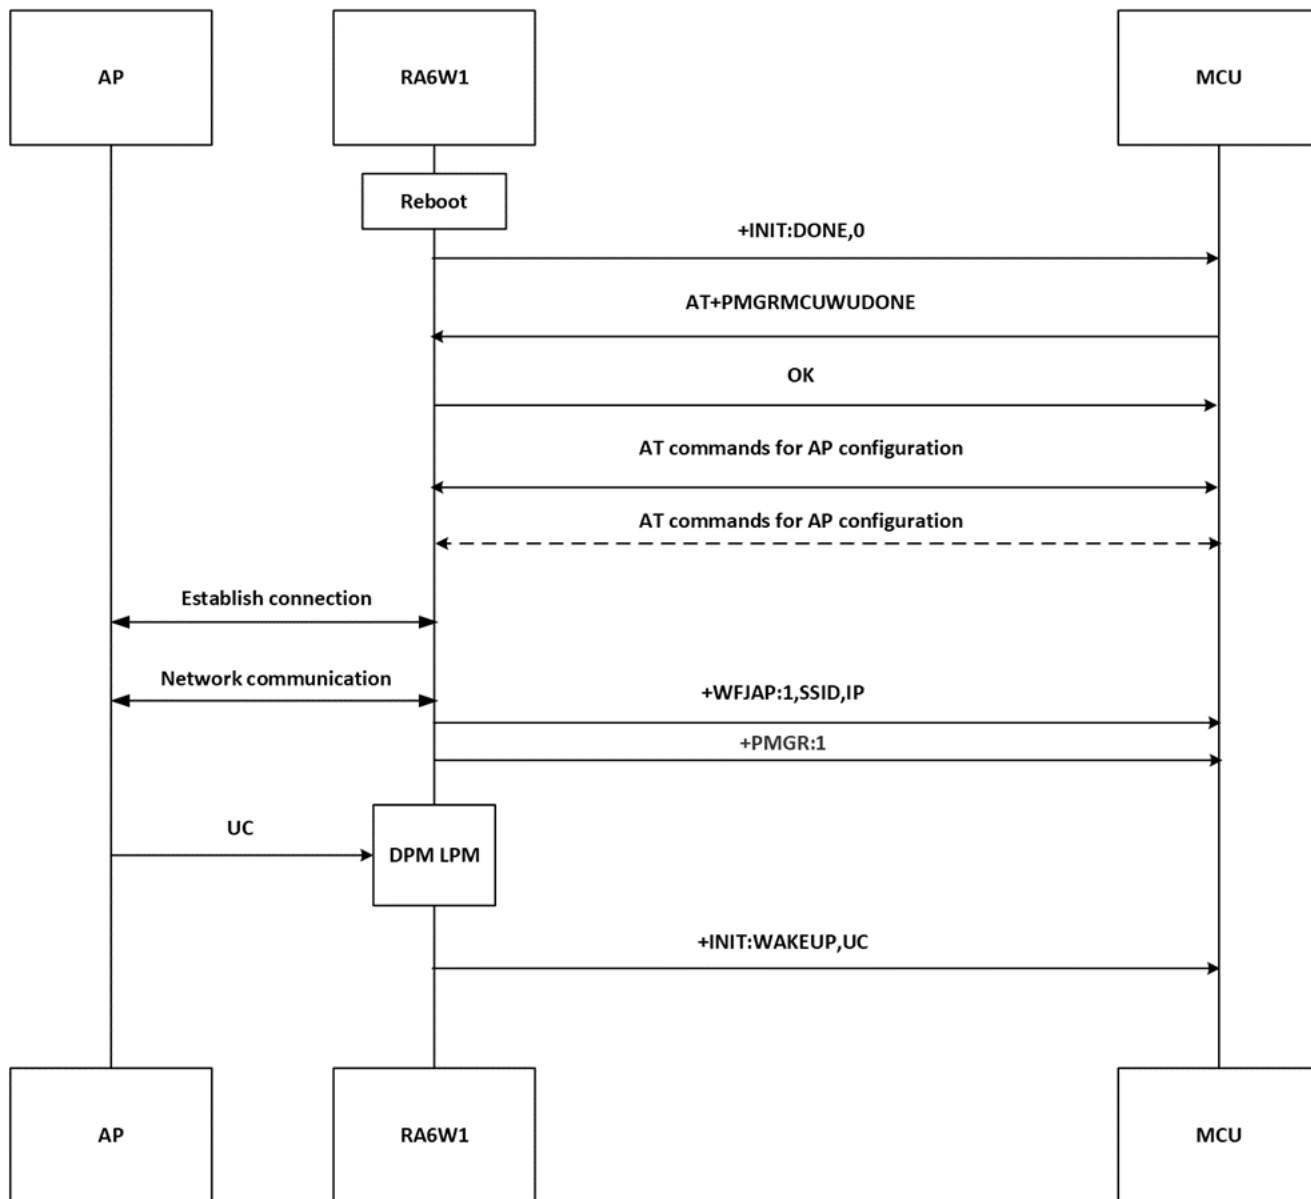

Figure 15. Sleep 3 DPM LPM default configuration using AT command
At this point, the device transitions into Sleep 3 DPM LPM mode, since DPM is enabled by default in the Wi-Fi module. While in LPM, the module maintains AP snoozing functionality. If a unicast (UC) packet is received, the device triggers an RTOS wake-up and notify the MCU of the wake-up reason using the +INIT:WAKEUP,UC message, see Figure 15.